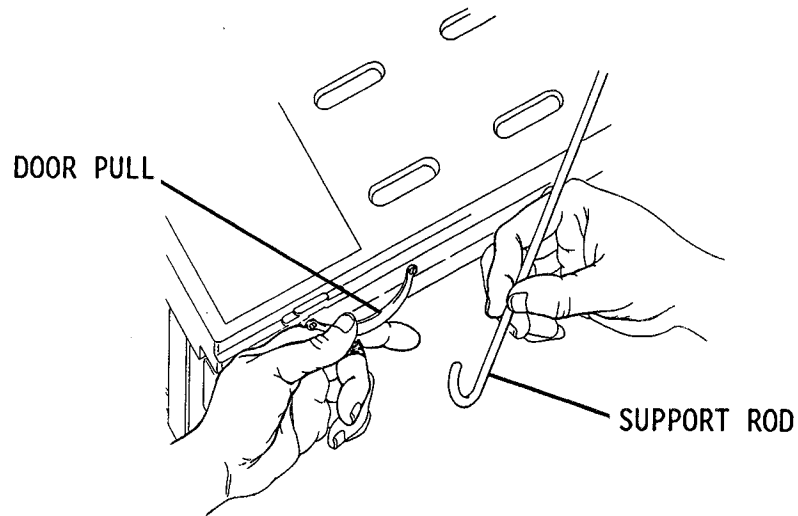

FIGURE 5. Checking the Door Pull/Support Rod Installation
1. Raise the Gum and Mint Magazine into the loading position and verify that the Support Rod will engage the Door Pull. See Figure 5.